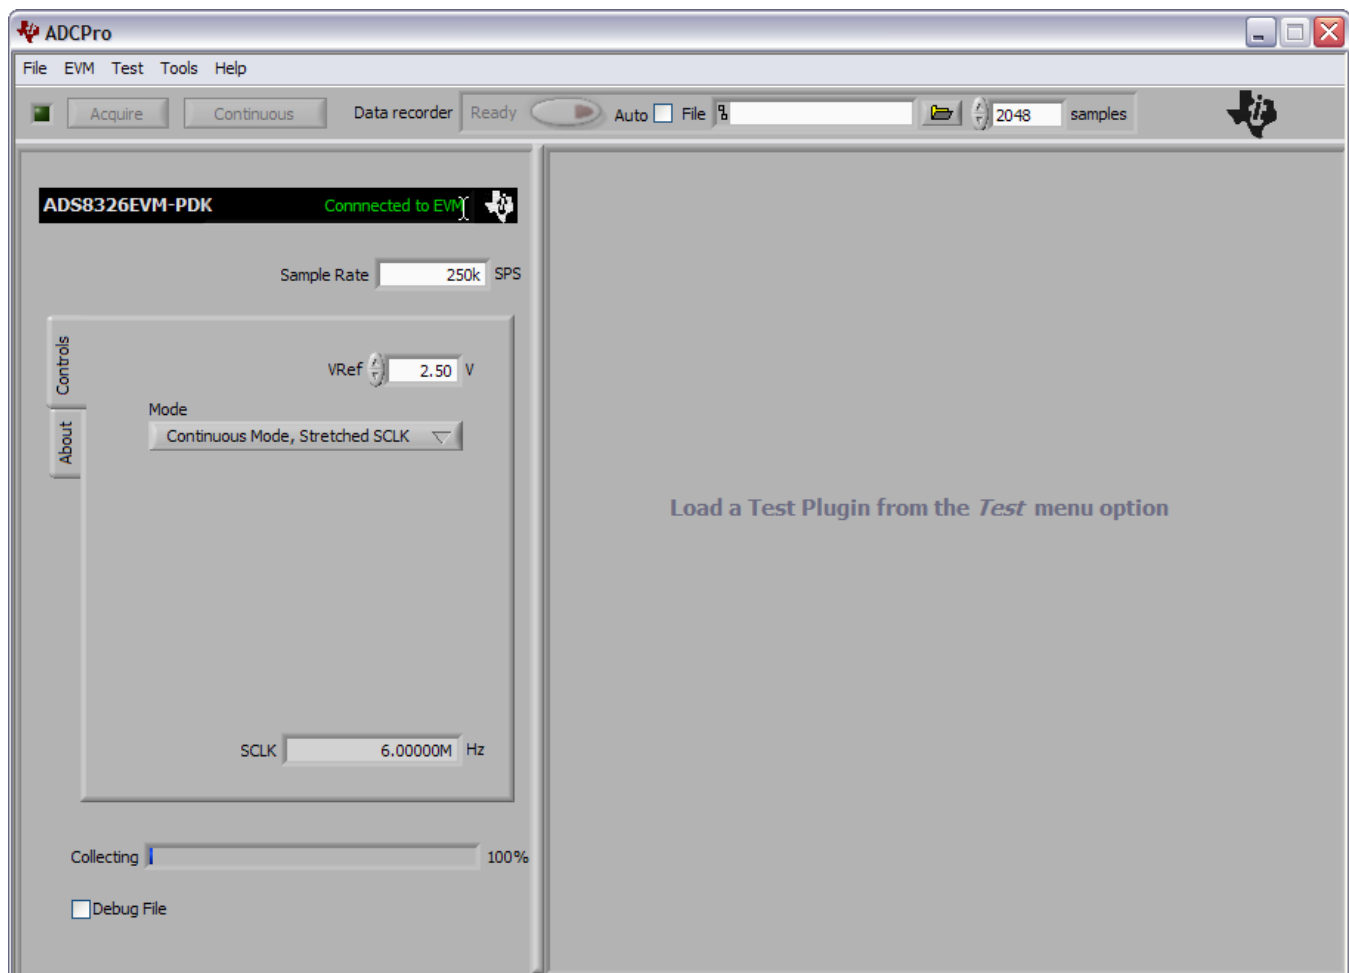

Figure 8. ADS8326EVM-PDK Plug-In Display Window
- Step 2. Select **ADSXXXXEVM** (where ADSXXXXEVM is the installed device which is to be evaluated) from the EVM drop-down menu. The ADSXXXXEVM-PDK plug-in appears in the left pane, as shown in Figure 8.